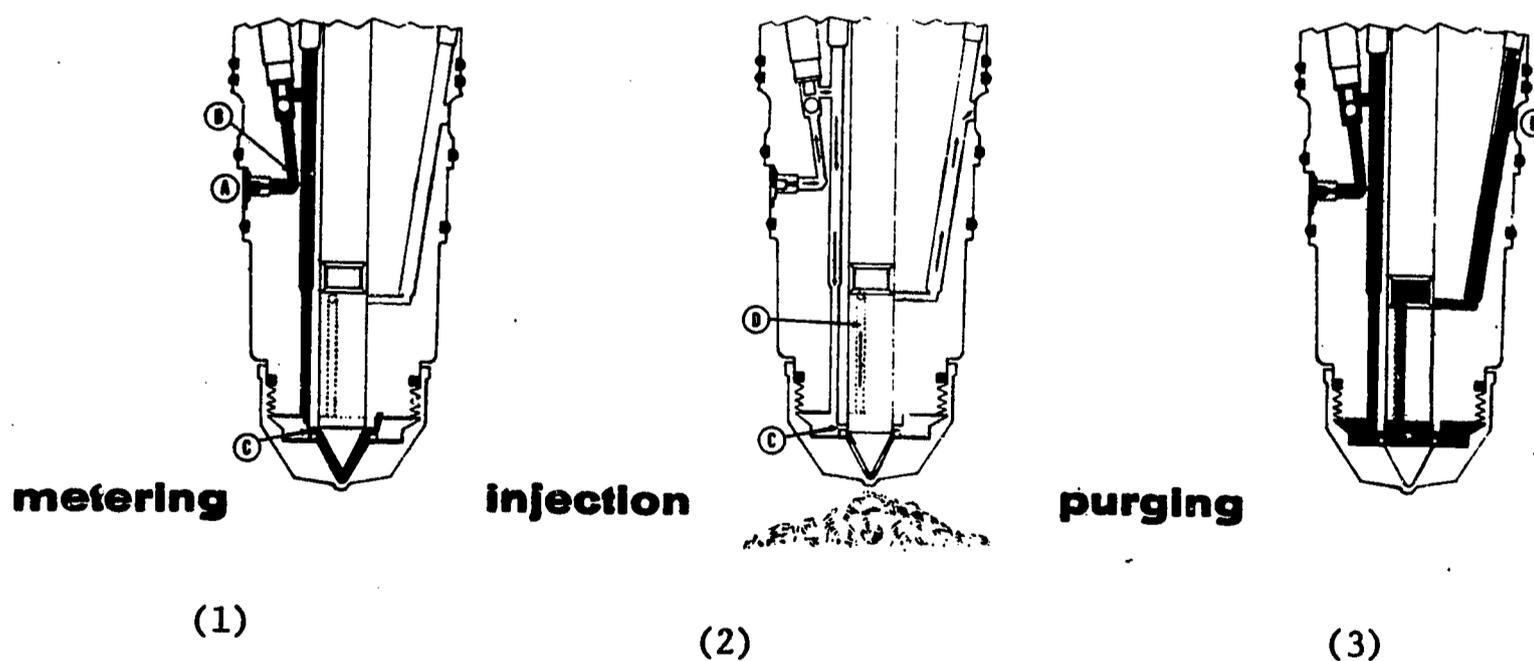

Fig. 9 Operation of Cummins fuel injector.
INJECTOR OPERATION -- Fuel enters the injector, see Figure 9 (1), at inlet (A), at low pressure as determined by throttle and/or governor. Metering orifice (B) controls quantity of fuel that can enter injector cup at hole (C) at the pressure determined by fuel pump and the time interval during which hole (C) is uncovered by the injector plunger. As the plunger, see Figure 9 (2), moves down, fuel entry into cup hole (C) is cut off. As plunger continues down it forces fuel out of cup through injector holes at high pressure as a fine spray that permits complete burning of fuel in the